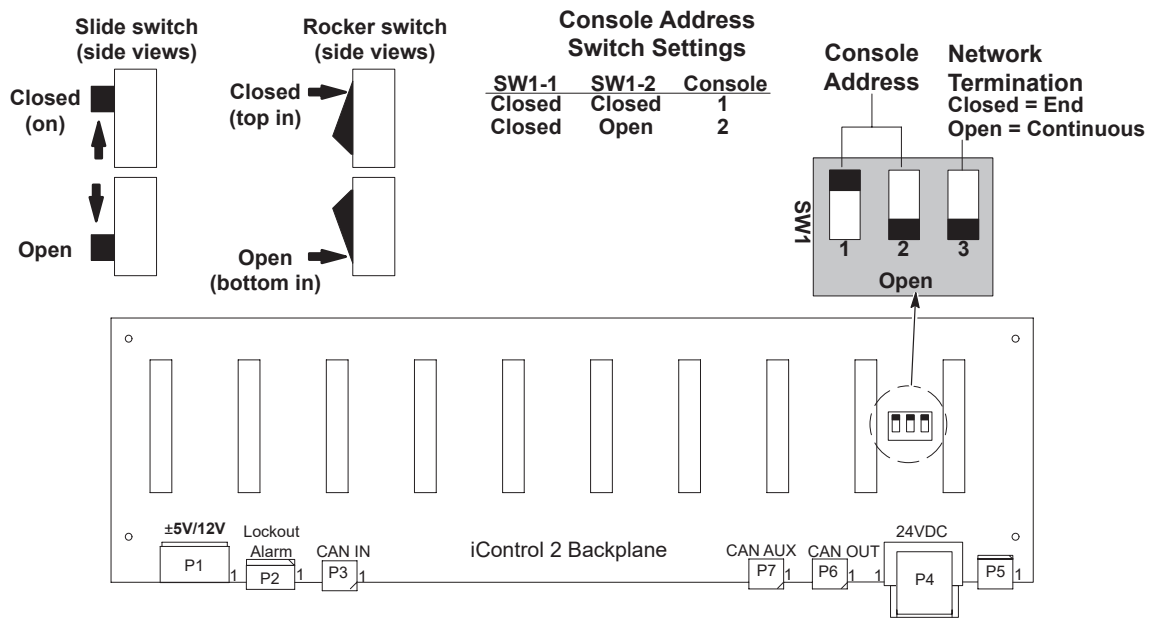

Figure 3-2 CAN Network Connections, Console Addresses, and Termination
See Figure 3-2.
**Console Address (SW4–3, 4):** Set switches 3 and 4 to the console address, which is the same as the address set at the backplane dipswitch shown in Figure 3-2.